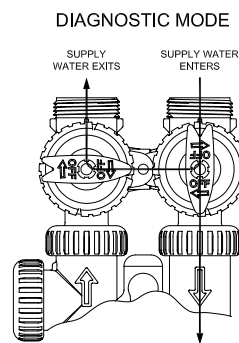

figure 3
**3. Diagnostic Position:** The inlet handle points in the direction of flow and the outlet handle points to the center of bypass valve. System water pressure is allowed to the control valve and the building plumbing system while not allowing water to exit from the control valve to the building plumbing. (see figure 3)
**SLOWLY** turn bypass valve to **DIAGNOSTIC** position (see figure 3 on page 4) to allow water to slowly enter filter in order to expel air.